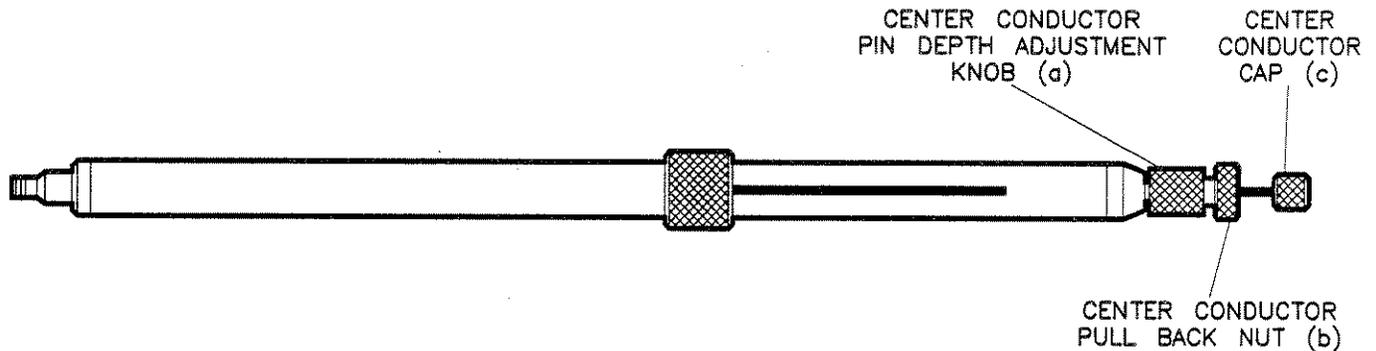

Figure 4-1. Sliding Load Termination
1. Loosen the center conductor pull back nut (b) completely. Press the center conductor cap (c) to extend the center conductor of the sliding load (Figure 4-1).